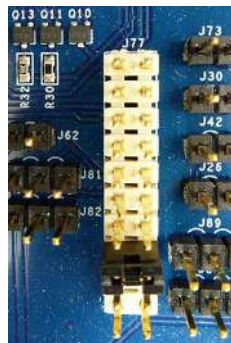

Figure 53.
- (12) Jumper J₇₁ Pin 2 to J₇₁ Pin 1 (VCC) to command PWM_TRI operation.
- (13) Jumper J₇₀ Pin 2 to J₇₀ Pin 3 (GND) to command buck operation.
- (14) Jumper J₈₈ Pin 2 to J₈₈ Pin 1 (VCC) to command continuous conduction mode (CCM) or J₈₈ Pin 2 to J₈₈ Pin 3 (GND) to command diode emulation mode (DE).
- (15) Jumper J₈₉ Pin 2 to J₈₉ Pin 1 (VCC) to command Latch off Fault protection (LAT) or J₈₉ Pin 2 to J₈₉ Pin 3 (GND) to command hiccup fault protection (HIC).
- (16) Remove jumper J₄ to disconnect VIN_FLY from VIN.
- (17) Connect V6 (TP₈ banana) to a disabled external 6V source.
- (18) Connect VIN (J₅₅ banana) and V12 (TP₇ banana) to a disabled external 12V source.
- (19) Enable the BAT48, BAT12_IN, V6, VIN, and V12 voltage sources.
- (20) Jumper J₅₈ to command enable.
- (21) Enable can be verified by observing the presence of voltages at PVCC, VCC, MCUVDD, and CLK_OUT.
- (22) Jumper J₇₇ Pin 5 to J₇₇ Pin 6 to command PWM_EN. See Figure 53. Avoid bounce to this connection.